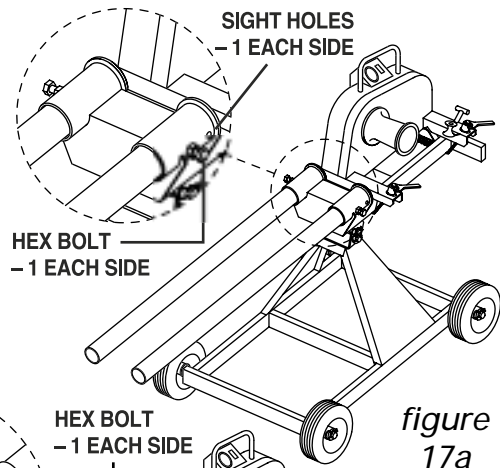

figure 17a
1. Slide the two 4' long boom tubes into the puller mount receiver tubes. Boom tubes must be completely inserted into the receiver tubes. After checking the sight holes to insure the boom tubes are completely inserted, tighten the hex bolt on each side of the puller mount. ( See Figure 17a. )